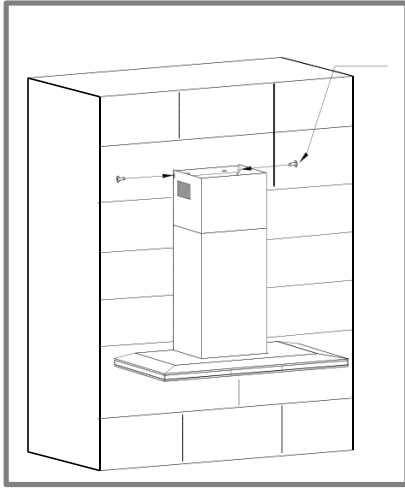

Fig. 9. 2
- Use the provided ST4*8 screws to attach the inner flue duct on the left and right sides of the bracket. (Fig. 9. 2)